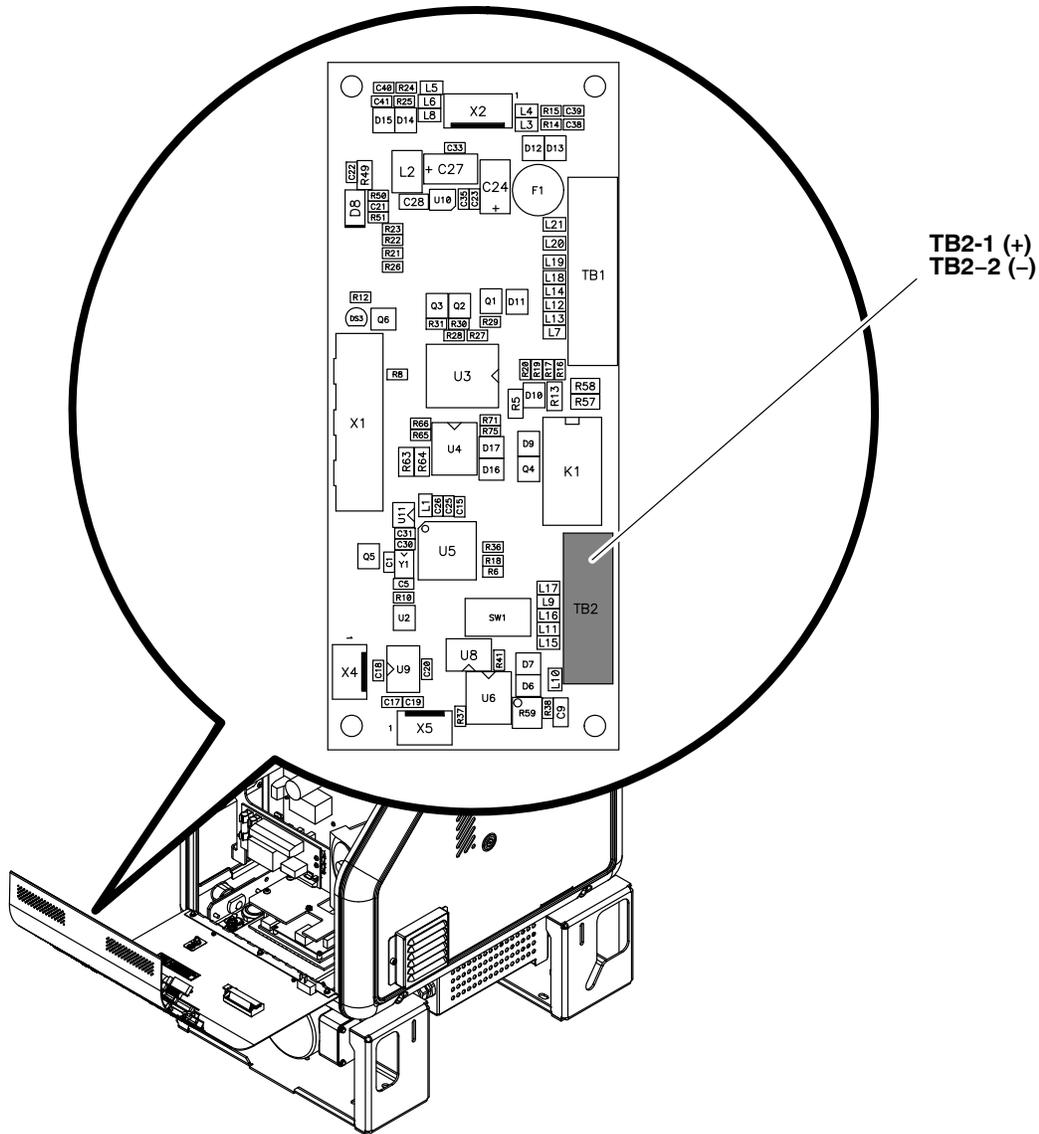

Figure 3-9 Connecting a line speed reference signal for gear-to-line operation on melters with a relay board
2. Connect a 0-10 VDC line speed reference signal as shown in Figure 3-9 for melters with a relay board.